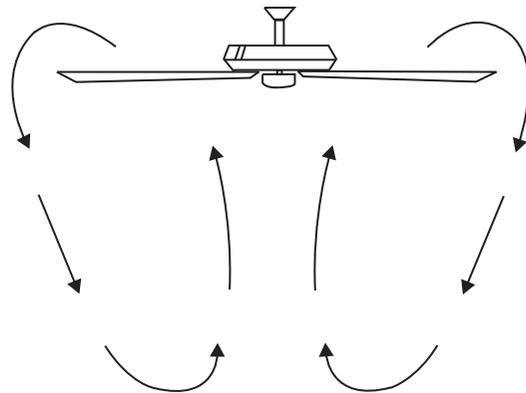

Fig. 27
**Cool Weather Operation:** Reverse (clockwise). An upward airflow moves warm air off the ceiling areas as shown in Fig. 27. This allows you to set your heating unit on a cooler setting without affecting your general comfort.